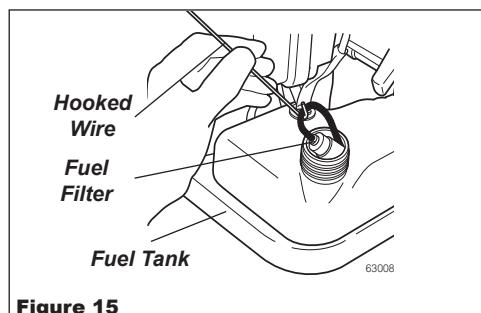

Figure 15
- FUEL FILTER Use a hooked wire to extract the fuel filter from inside the fuel tank. See Figure 15.